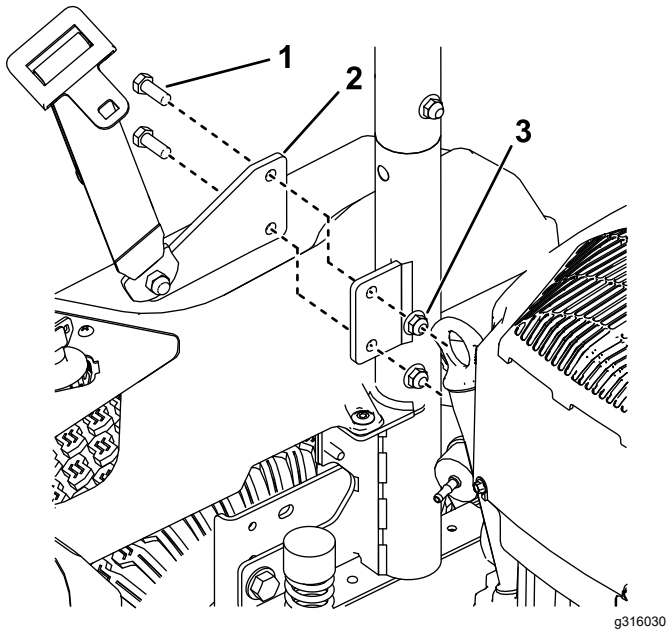

Figure 10
2. Install the seat belt brackets to the outside of the ROPS mounts (Figure 10).
4. Install the left pod bracket to the machine frame using 2 thread-forming screws (5/16 x 3/4 inch) as shown in Figure 10.